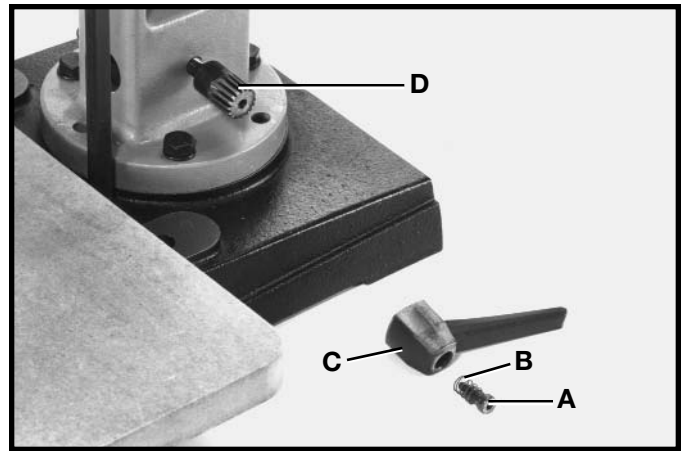

Fig. 9
2. Thread stud (D) Fig. 9, into hole on side of column, as shown. Do not thread stud (D) all the way into hole at this time.
3. Reassemble handle (C) Fig. 9, on stud (D) and replace screw (A) and spring (B).